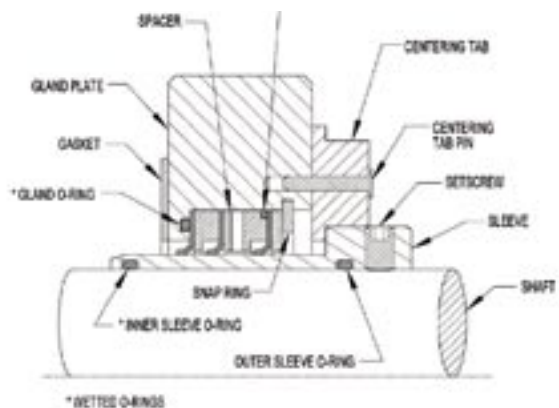

FIGURE 4
- Loosen the setscrews (item 28) in the bracket that secures the bearing housings.
- Remove the capscrews (item 32) and the bracket.
- Remove the four capscrews and washers that hold each cartridge mechanical seal in place and remove the seals. Refer to figure 4. For other optional sealing instructions refer to Mechanical Seal Information on pages 5 and 6.